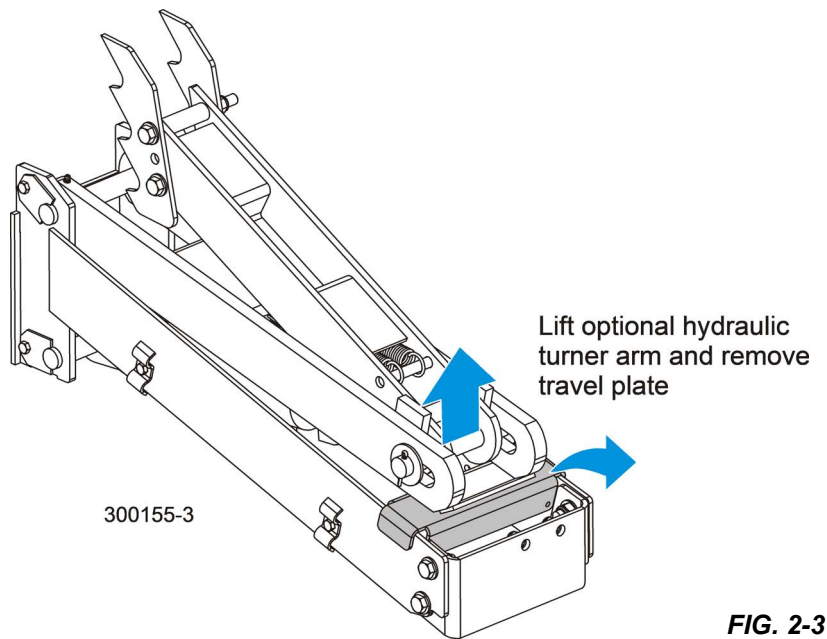

FIG. 2-3
3. If the sawmill is equipped with the hydraulic log turner, remove the travel plate. **See Fig. 2-3.**
See Fig. 2-3.